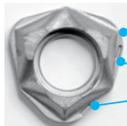

Fig.1
2. The shim must be mounted in the proper direction. While aligning the surface of the shim with the mark on it to the corresponding constraint surface (see Fig. 1) and lightly pressing the shim toward the constraint surface of the pocket wall (see Fig. 2), insert the screw into the hole of the shim and tighten (See Fig. 3). When tightening screw, make sure that the screw is vertical to the pocket floor (See Fig 3). Recommended torque is 6.0Nm